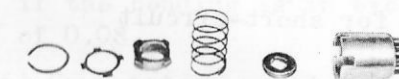
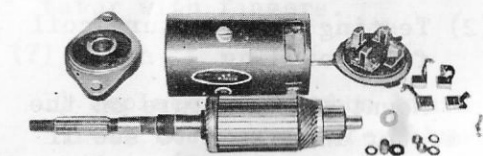

Fig. 10-30
Fig. 10-31
- (3) The pinion assembly should be dismantled after the clip is removed. Fig. 10-30 illustrates the pinion assembly as dismantled.
- (4) Pull out the through bolts and remove the front cover and armature assembly.
- (5) Remove the carbon brushes and nut clamping the terminal screw. Then the rear cover assembly and yoke assembly can be dismantled as illustrated in Fig. 10-31.